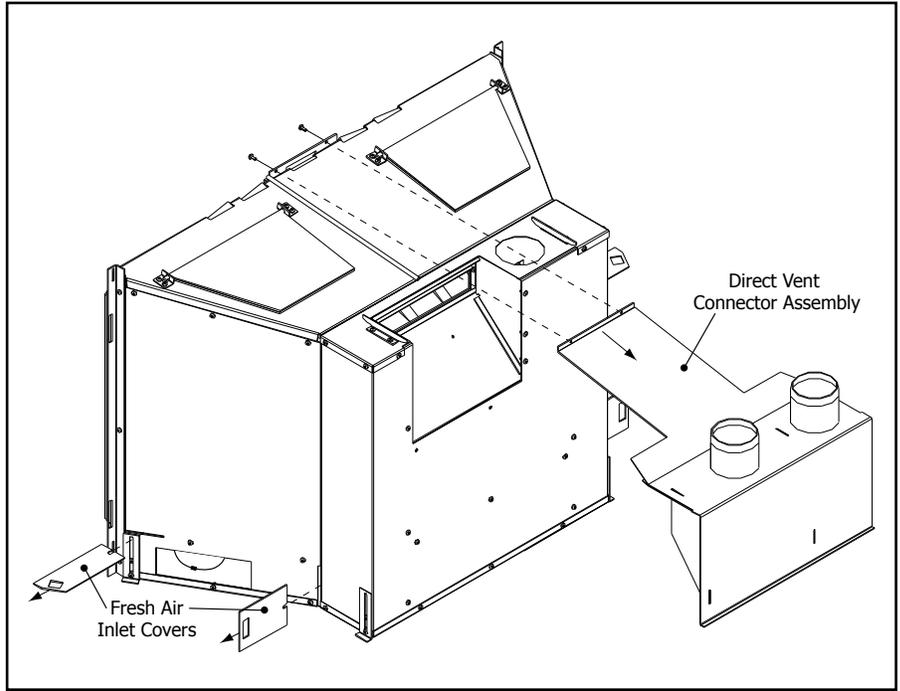

Figure 16: Converting to a BV fireplace.
1. Remove the Direct Vent chimney connector assembly by taking out the two (2) T-20 screws at the front of the unit. Push the assembly out from under the brackets at the back and remove (see Figure 16).
2. Remove the two (2) fresh air inlet covers from each side. Cover locations shown in Figure 16.
3. Slide the B-Vent chimney connector assembly into the same position the Direct Vent chimney connector assembly was in. Ensure the tabs are under the brackets at the back and the holes at the front line up. Secure into place with the two (2) T-20 screws at the front of the unit.